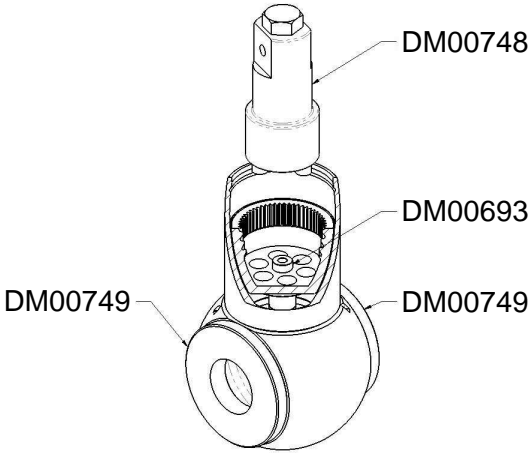

Figure 7: Assembly and disassembly tool
2. Using spider tool (DM00748), loosen spider (DM02145 Figures 7 and 8) from main body.